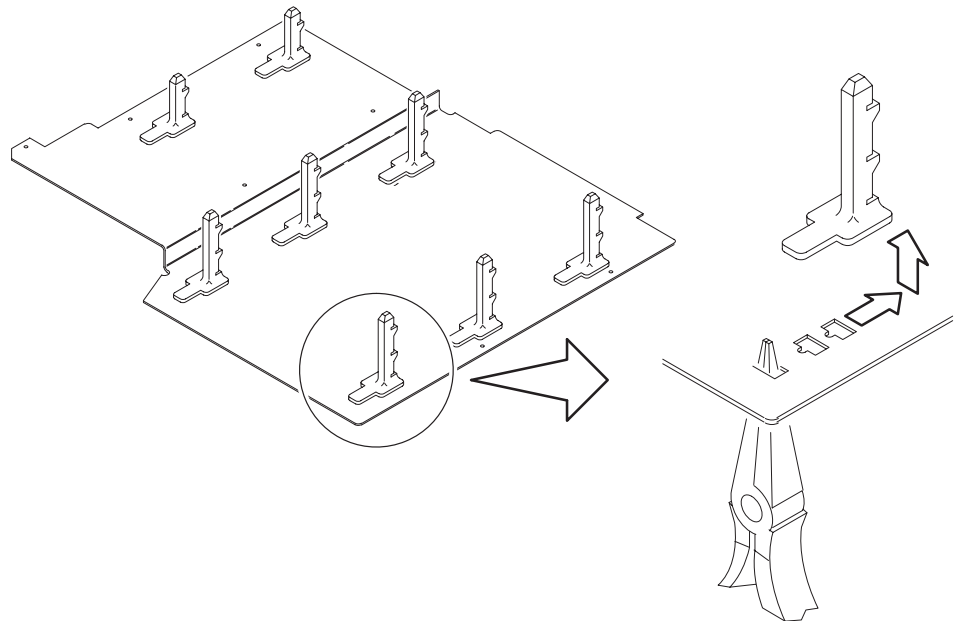

Figure 6–18: Board bracket removal
- b. Locate the modules to be removed in the locator diagram *Outer-Chassis Modules*, Figure 6–2, page 6–13.